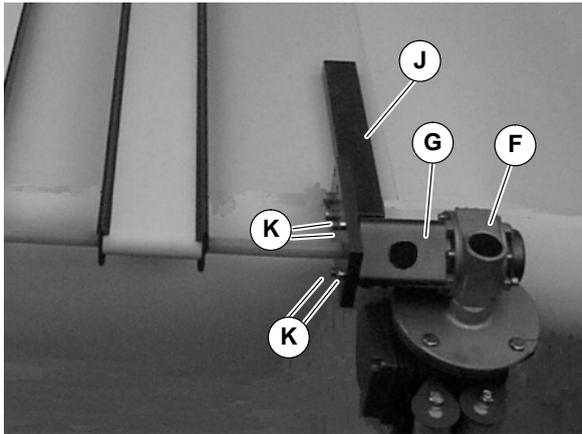

Figure 29
- Attach gearmotor support assembly (J of Figure 29) and guard tube (G) to gearmotor assembly (F). Tighten screws (K) to 12 Nm.